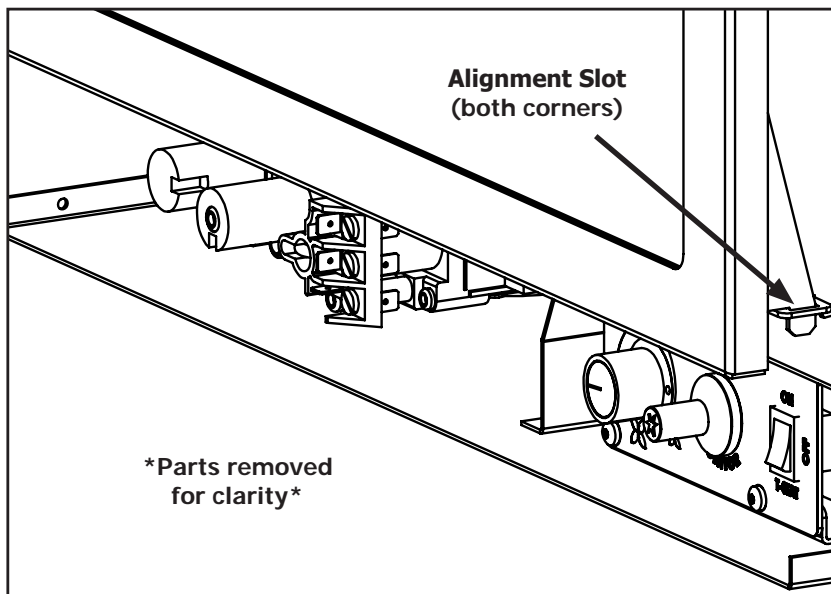

Figure 18. Bottom Alignment Slots for glass door.
In order to install the coal set, and for regular cleaning, the glass door must be removed. There are two (2) door latch mechanisms on top the glass door as shown in Figure 8. Each latch has a hole at the front to use the door tool, supplied with the unit, to pull the mechanisms straight out and up. When the top latches are unhooked, lean the door forward and then lift it up out of the alignment slots at the bottom corners of the firebox, shown in Figure 18.